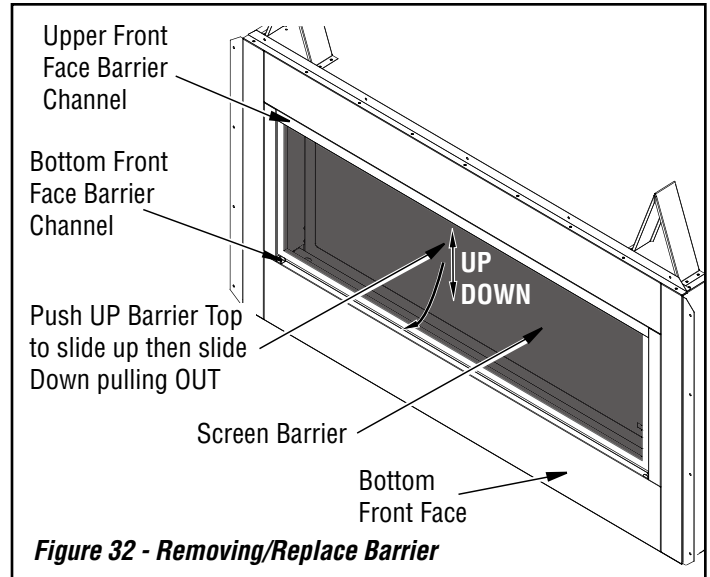

Figure 32 - Removing/Replace Barrier
1. To remove barrier, push barrier top up to slide it up then slide down pulling barrier out (see **Figure 32**).
2. Install the barrier by sliding in into the top channel with the flat side toward the fireplace, then swinging the base of the barrier into the bottom channel and lowering it into place (see **Figure 32**).